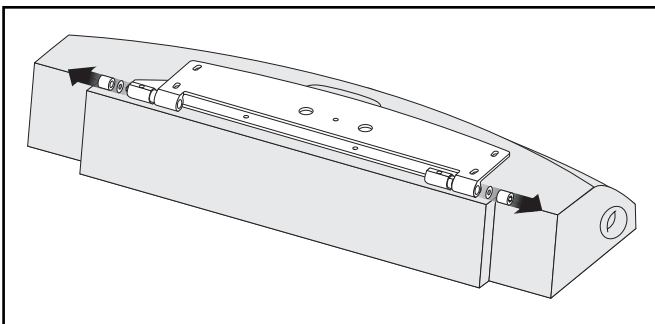

Figure 7. Remove the 2 cap nuts and washers from the hinges.
- 2 Using the 6mm Allen tool, remove the 2 cap nuts and washers from the hinges. Place them aside (see figure 7).